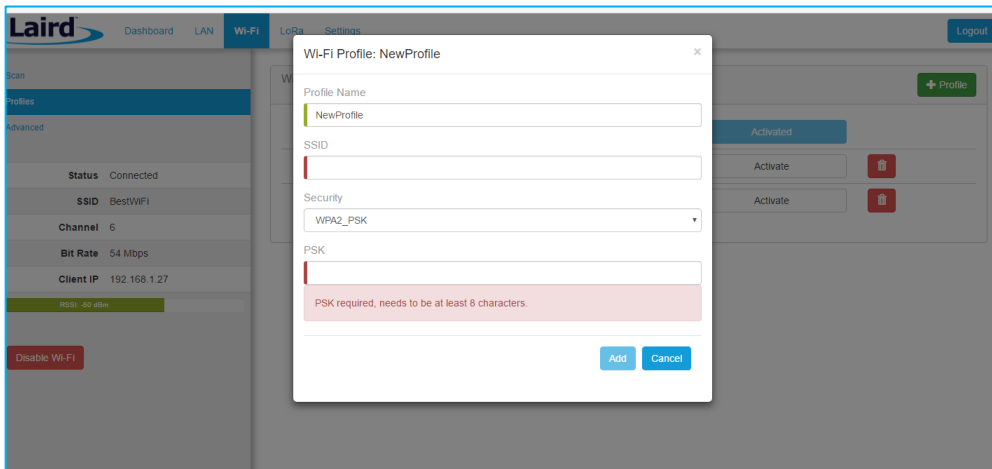

Figure 17: Wi-Fi profile dialog
2. Click **+ Profile** to display the Wi-Fi profile dialog (Figure 17).